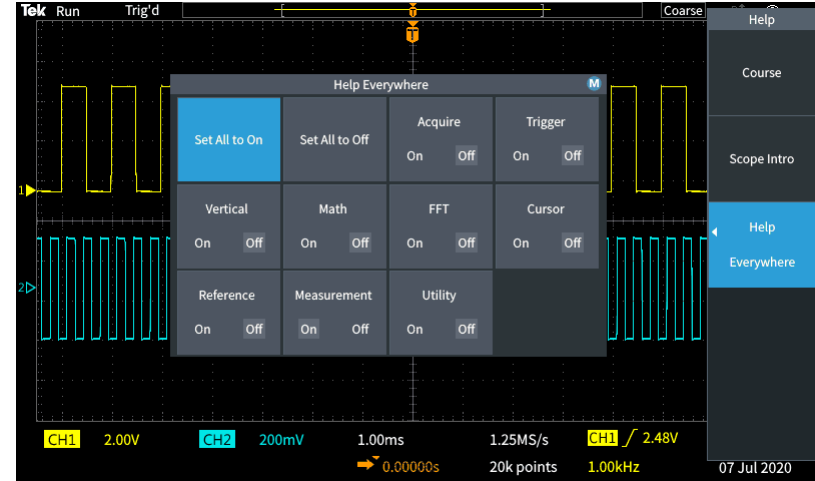

Figure 1. Enabling Help Everywhere
2. Select **Help Everywhere** from the bezel button (Figure 1)